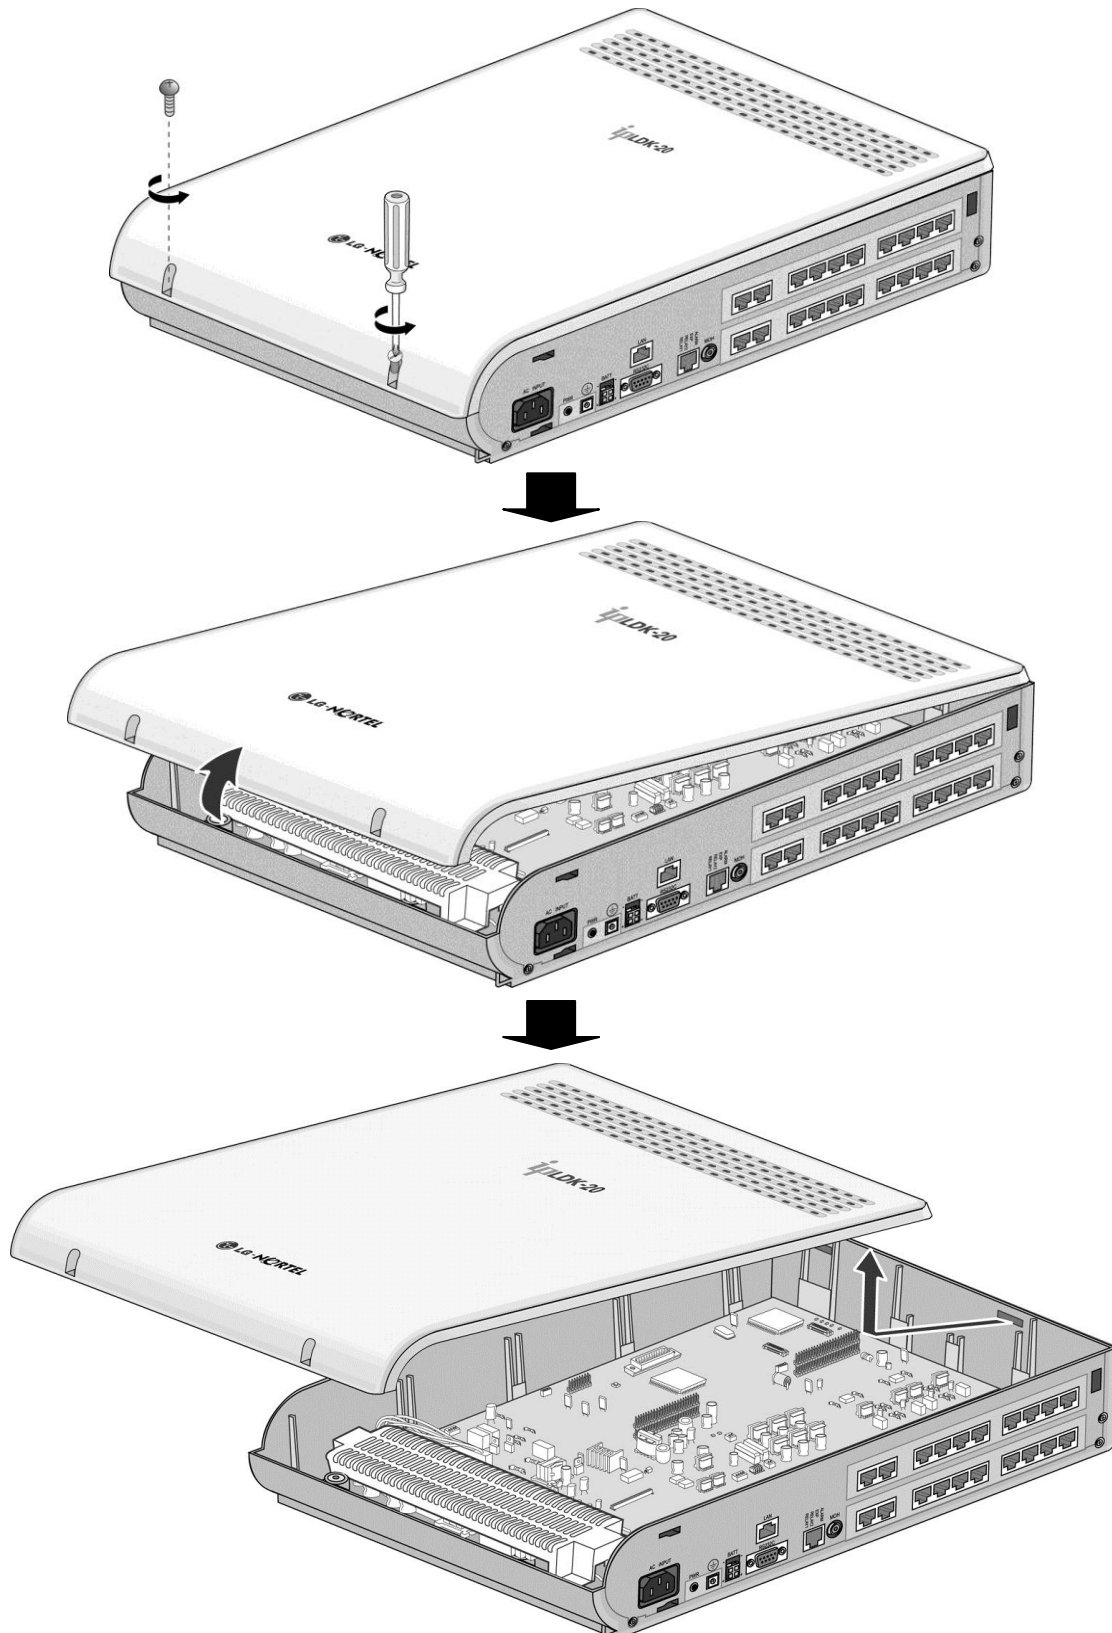

Figure 2.2.4.1 Opening the front cover
1. Turn the screw counter-clockwise to loosen as shown in Figure 2.2.4.1.